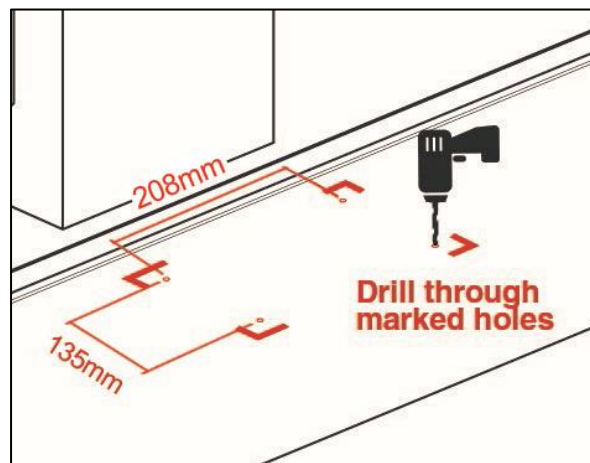

Fig 7
- Using a M12 masonry drill bit, drill holes to a minimum depth of 120mm (Fig 7).